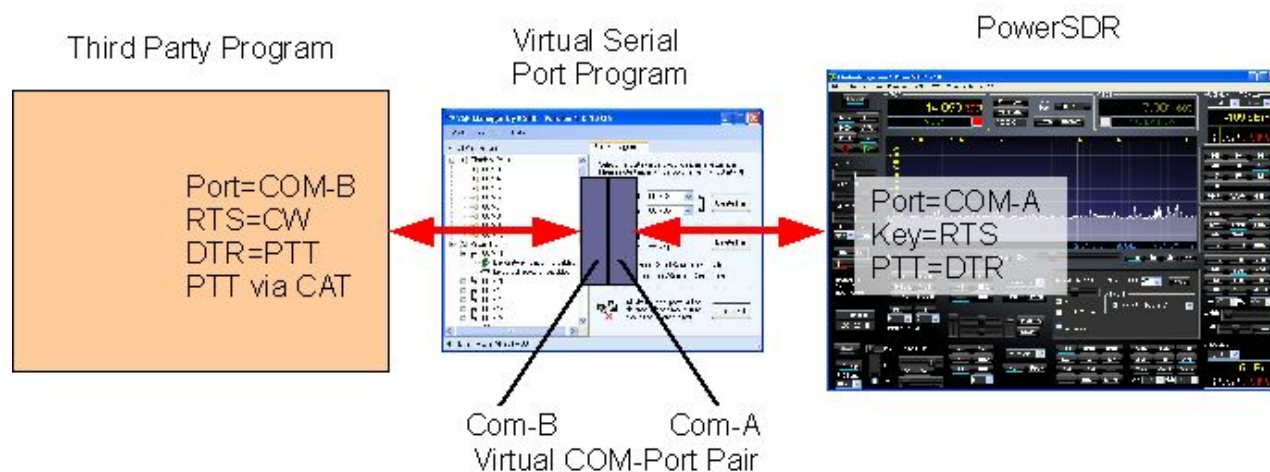

Figure 39: Diagram Illustrating Connections Between PowerSDR and Third Party Program
1. Connect your paddles or key to the Key jack on the front panel (see page 3) and on the Keyer Sub-Tab in the **Connections** section, set **Primary** to **Radio** (see Figure 39 below).
Alternatively, a virtual null-modem serial port pair can be created, as shown in Figure 39. There are various programs that can be used to create such a virtual serial port pair, such as VSP Manager (see http://k5fr.com/ddutilwiki/index.php?title=VSP_Manager) or Com0Com (search for com0com in our Knowledge Center at <http://kc.flex-radio.com/search.aspx>). The key to understand is that virtual serial ports present themselves to programs just like physical ports. Also, the pair consists of two virtually interconnected ports (shown below as COM-A and COM-B). One of these ports is selected as the CAT control port in PowerSDR, the other as the port to connect to in the CW program.